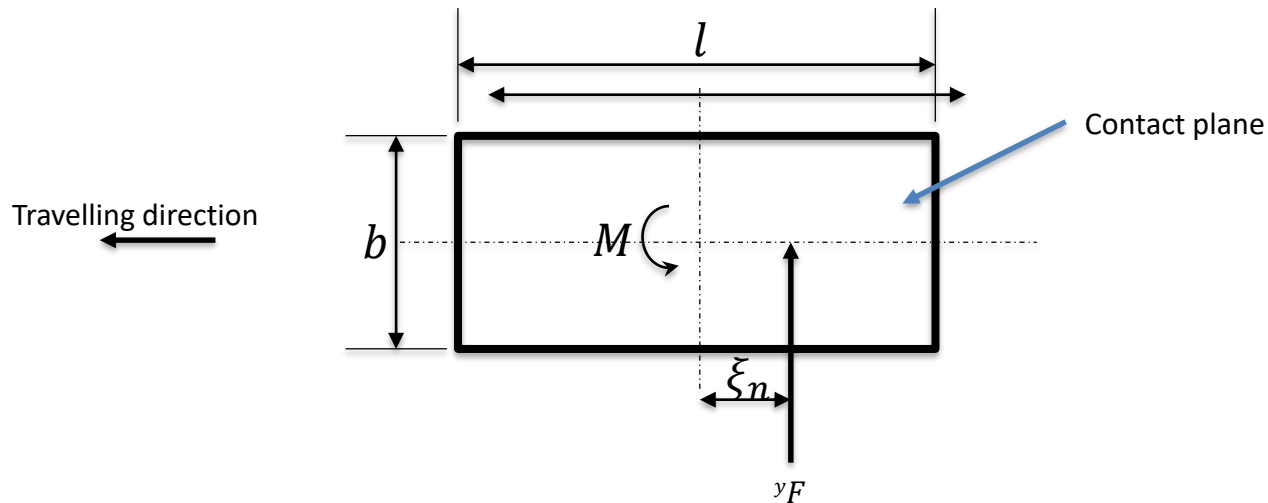

Figure 3 Lateral force and self aligning torque acting on the tire
- Fig.3 shows the lateral force, yF acting on the tire.
- As can be seen in Fig.3, the acting point of the lateral force is shifted slightly behind the contact plane centreline.
- Fig.3 shows the self-aligning torque on the front wheel.
- From Fig.3, the moment acting at the tire around the kingpin, $T_s/2$ is: